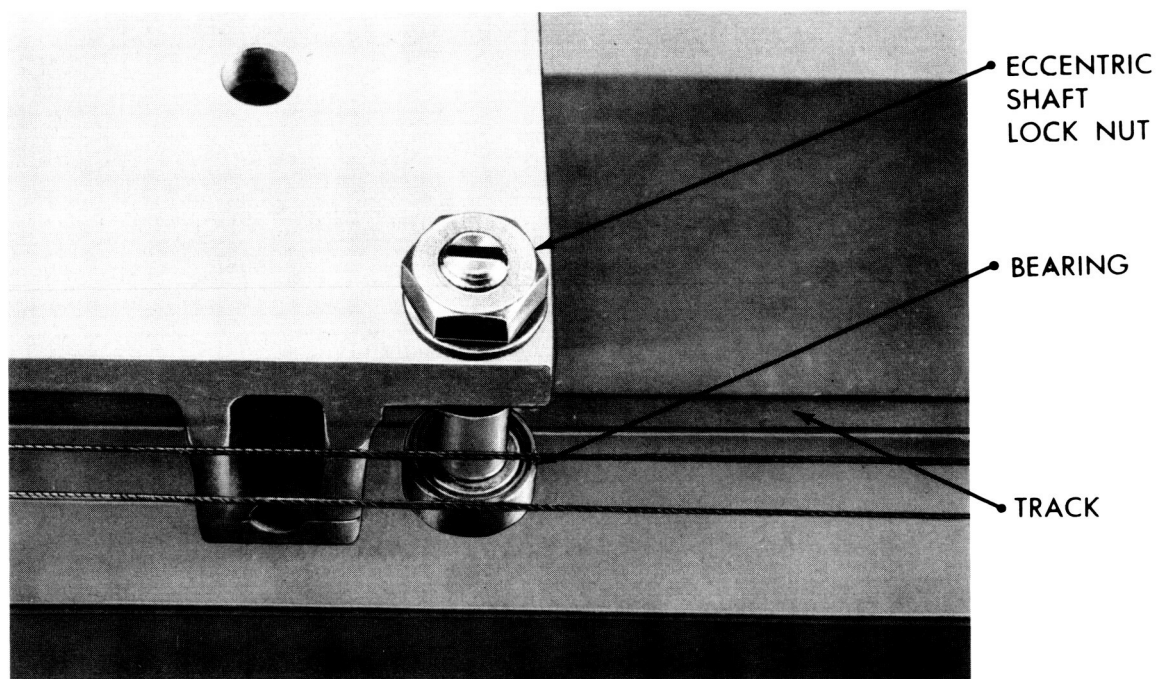

Figure 5-9. Lower Bearing Adjustment.
- a. Loosen the lock nuts locking the lower bearing eccentric shafts. (See Figure 5-9).